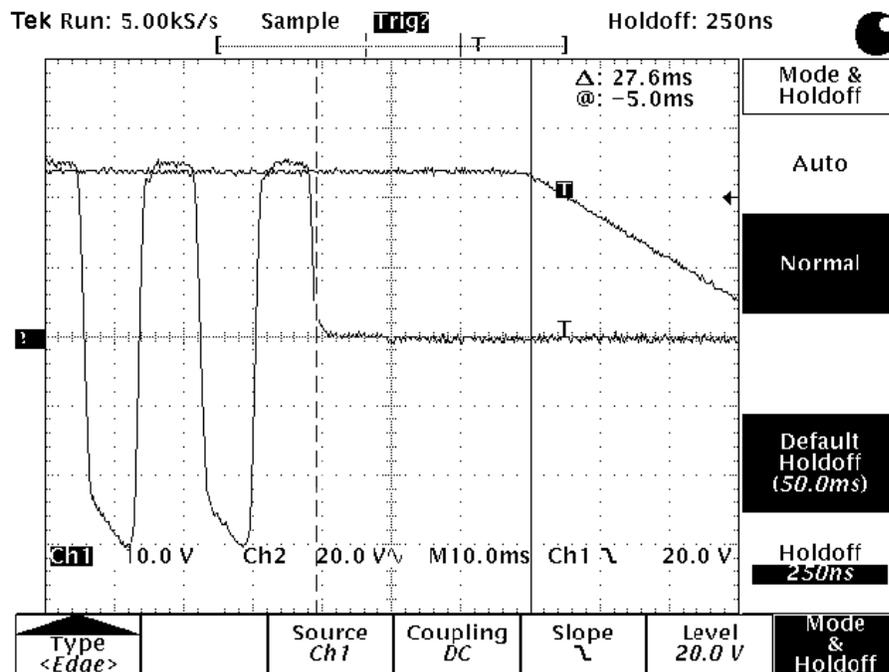

Figure 4 – Hold-up Time
- 7.7.3 Find out where you are within the cycle, to make sure you have zero crossing correct to within ± 1 milliseconds. Turn the AC source off. The oscilloscope should have triggered as the output voltage decreased below the trigger threshold. The oscilloscope should display the AC and DC waveforms similar to the sample plot in Figure 4.
- 7.7.4 The holdup time is the time duration of when the AC input voltage is removed to the time until the output voltage falls below the minimum specification. The AC input voltage shall be removed within ± 1 milliseconds of the zero crossing. This is shown in Figure 4 by the two vertical cursors. Record the holdup time.